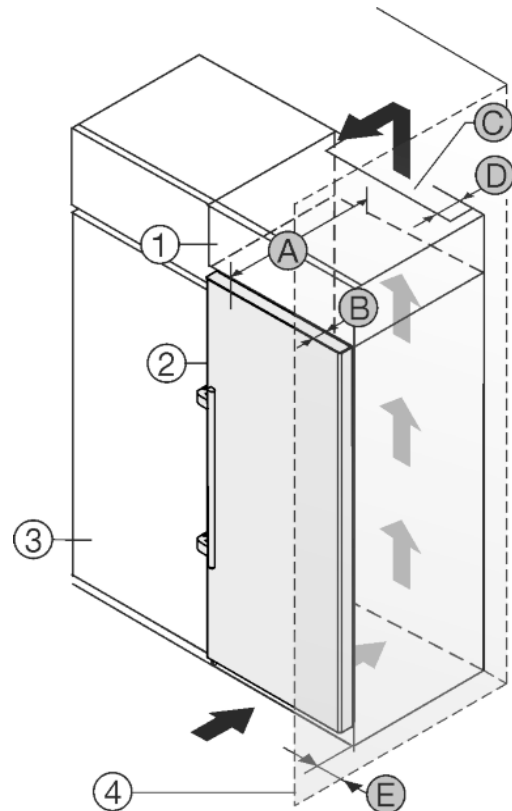

Fig. 20
The appliance can be built into kitchen units. A top cupboard Fig. 20 (2) can be added above the appliance in order to bring the appliance Fig. 20 (1) up to the height of the fitted kitchen units.
The appliance can be installed right next to the kitchen cabinet Fig. 20 (3). The appliance must stick out by the depth Fig. 20 (B) from the front of the cabinet so that the doors can be opened fully. The appliance may protrude further depending on the depth of the kitchen cabinets and whether wall spacers are used.
- There must be a ventilation shaft with the depth Fig. 20 (D) at the back of the top cupboard over the entire width of the cupboard.
- The ventilation shaft Fig. 20 (C) must be observed under the ceiling.
If the appliance is installed with the hinges next to a wall *Fig. 20 (4)* the distance *Fig. 20 (E)* between the appliance and the wall must be observed. This is how far the handle protrudes when the door is open.